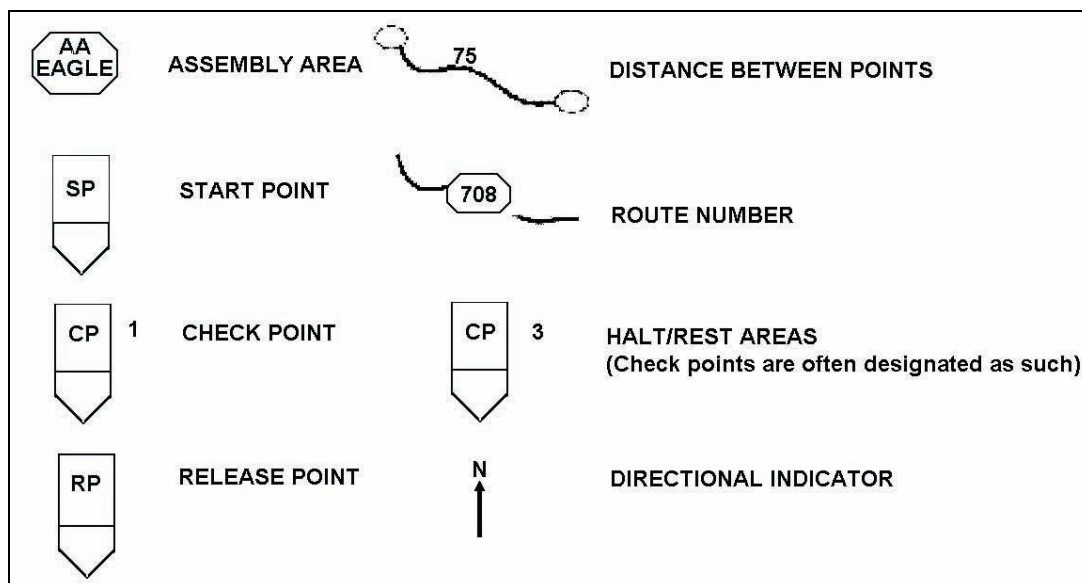
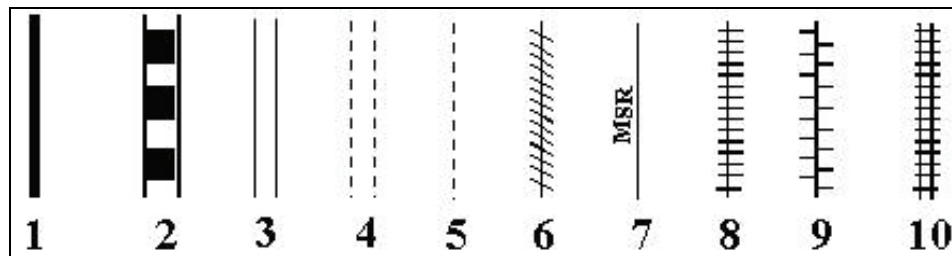

Figure 3-36a. Strip Map Symbols
Figure 3-36b. Strip Map Symbols
1. Identify strip map symbols (see Figure 3-36a and Figure 3-36b).